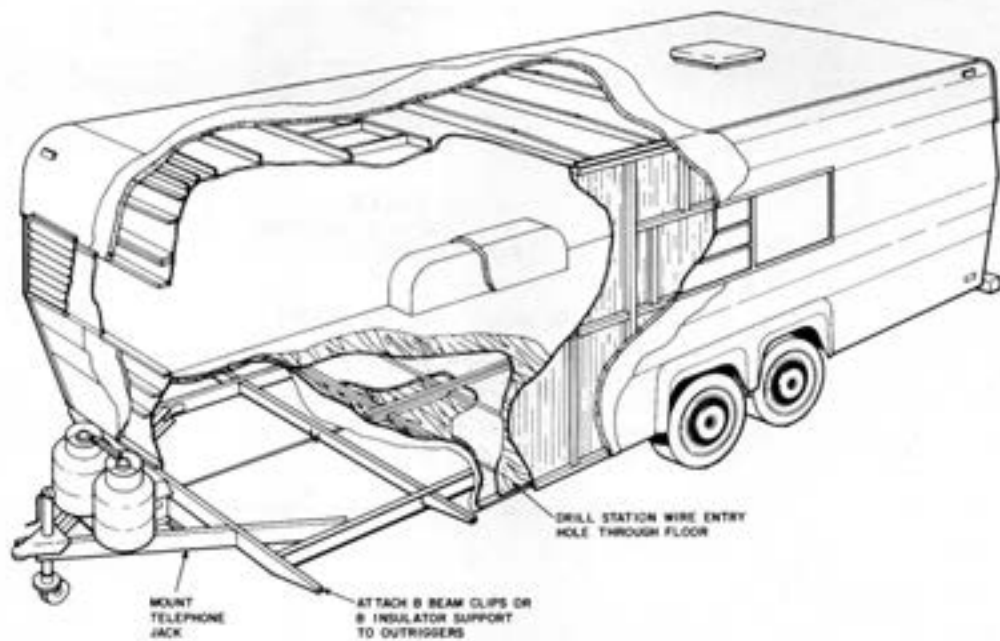

Fig. 18—Typical Recreational Trailer Construction
3.04 The B outlet box and B mounting bracket should be mounted on the vehicle by the installer using the mounting holes provided by the customer. For trailers, the customer will use the C template to drill holes for the mounting bracket on top of the vehicle hitch as close to vehicle as possible. The box should be mounted on the same side as the other utilities with the jack on the outside (Fig. 18 and 19). For truck campers and motor homes, the customer will use the template to drill holes on the left side of the rear bumper (see Fig. 20). The outlet box should be mounted so it does not extend beyond the edge of the bumper. The cord grip assembly may be